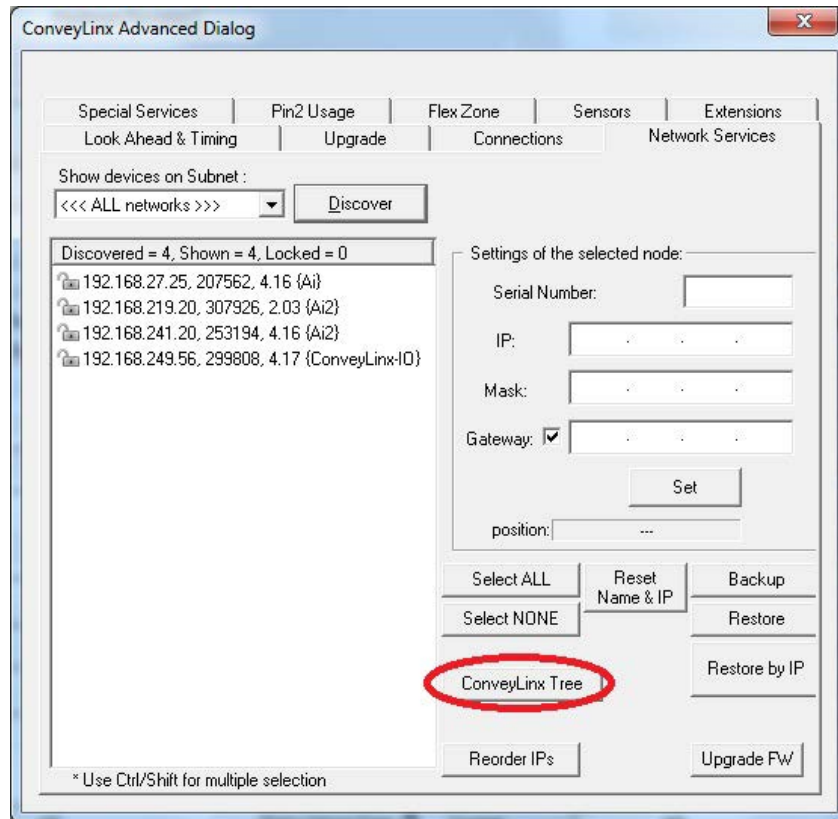

FIGURE 19 - DISCOVER PROCEDURE ON CONVEYLINX-AI2 MODULES
2. When the *ConveyLinX* modules appear in the module table, select the ones that you want to configure and click "ConveyLinX tree" as shown in Figure 19.